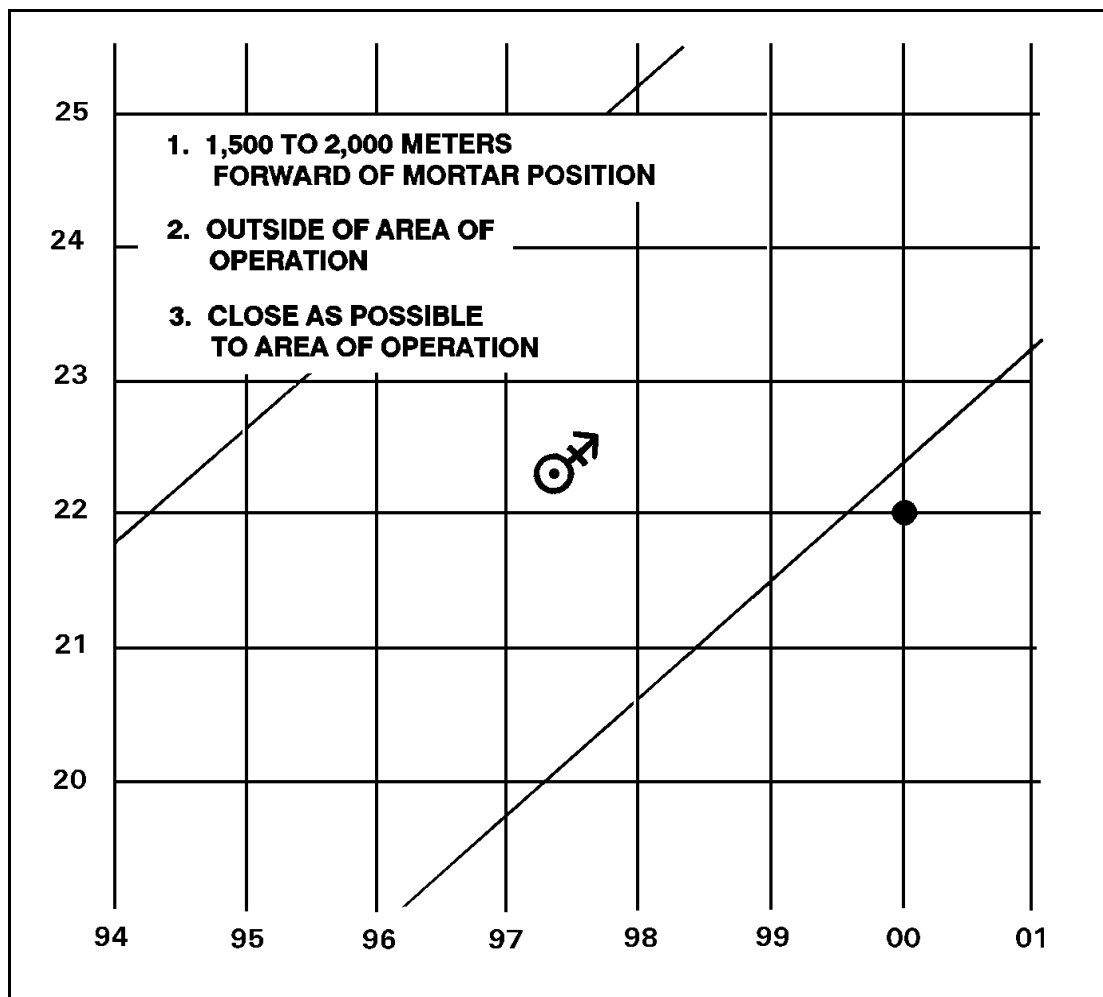

Figure 12-15. Grid intersection to represent pivot point.
(1) For the 60-mm and 81-mm mortars, the grid intersection representing the pivot point (Figure 12-15) is between 1,500 and 2,000 meters forward of the mortar location. This allows the full range of the mortar to be used.